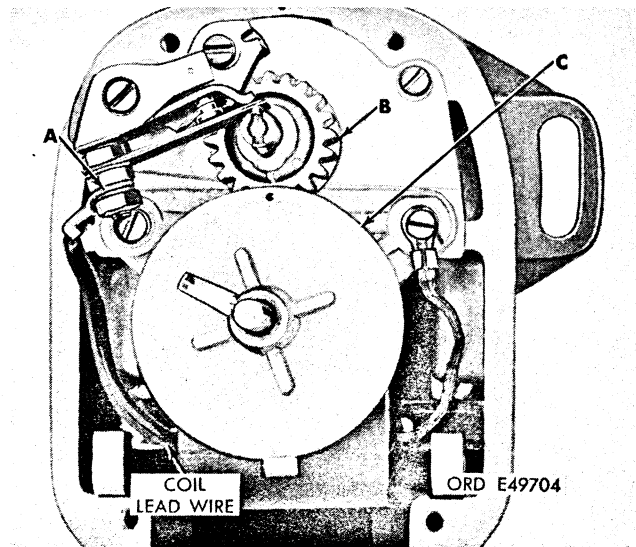

FIGURE 74.11 POSITIONING DISTRIBUTOR DISK AND CONNECTING COIL LEAD WIRE.
d. Connect Coil Lead Wire and Install Distributor Disk (figure 74.11). Connect coil lead wire (A) to connector post on point set. Secure wire with No. 8 lock washer and No. 8 hex nut. Turn drive gear (B) until red mark on the gear is in a downward position. Install distributor disk (C) so that red dot or hole in disk aligns with mark on drive gear.